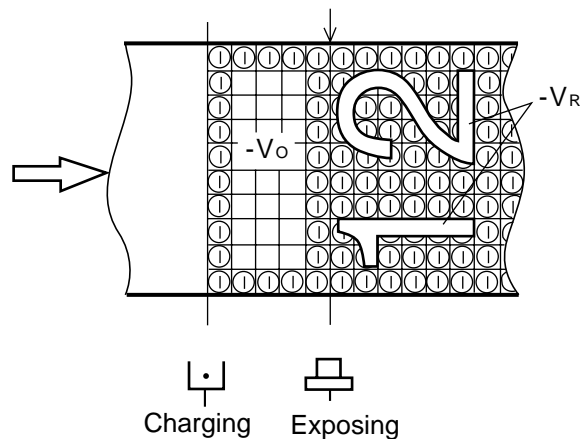

Fig.4-13
(2) Process of Exposing (Refer to Fig.4-13.)
- v) An invisible electrostatic latent image is formed on the OPC belt as shown in Fig. 4-13.